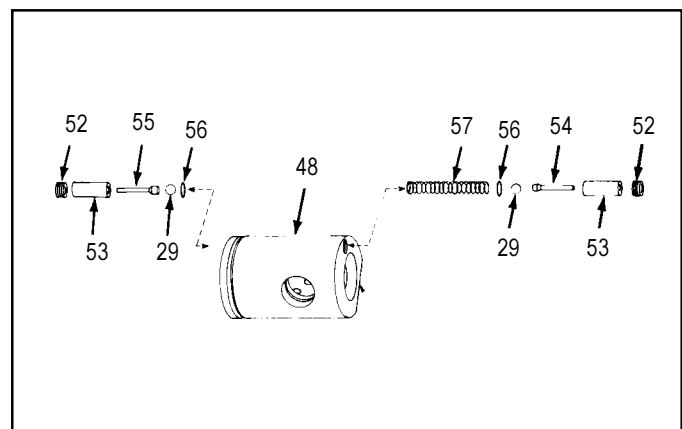

FIGURE 37
5. Refer to Figure 37. Install stop washer (56), limiting valve stem(54), limiting body(53), in the appropriate end of the piston(48). Apply a small amount of LOCTITE 222 on the threads of the limiting body nut(52) and install the nut in the piston. Torque the nut to 17 foot pounds using the 6mm hollow hex wrench (Tool 297660) and a 6 mm socket.